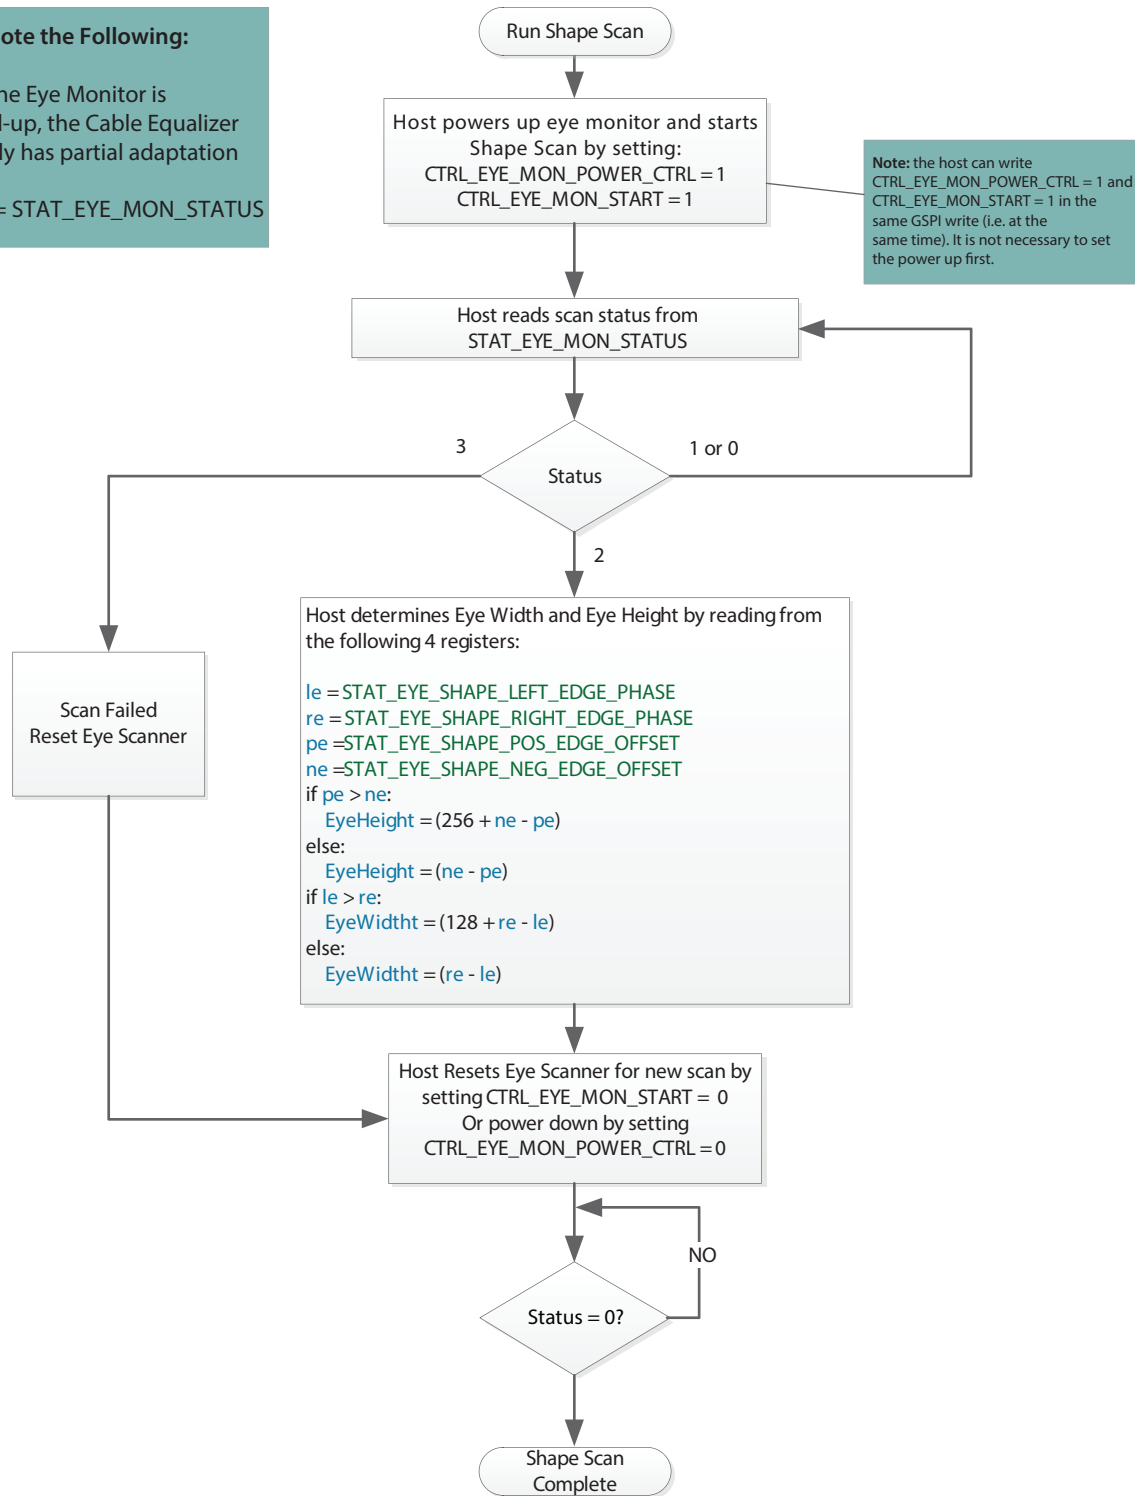

Figure 4-10: Shape-Scan Flow Diagram
4. Start the scan and poll the scanner status register until the scan is complete. Please refer to the flow diagram in Figure 4-10.